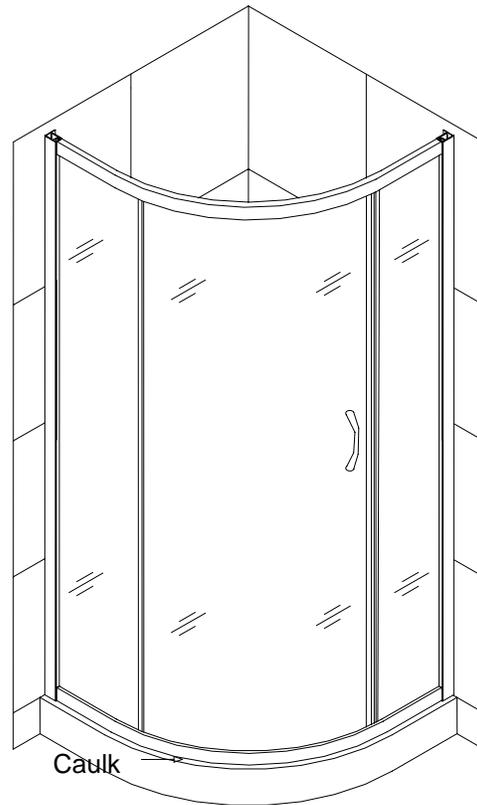

Fig 10
11. Seal with silicon between **Wall profile, Glass Profile, Bottom rail** and **Tray**. See fig. 10 for details.